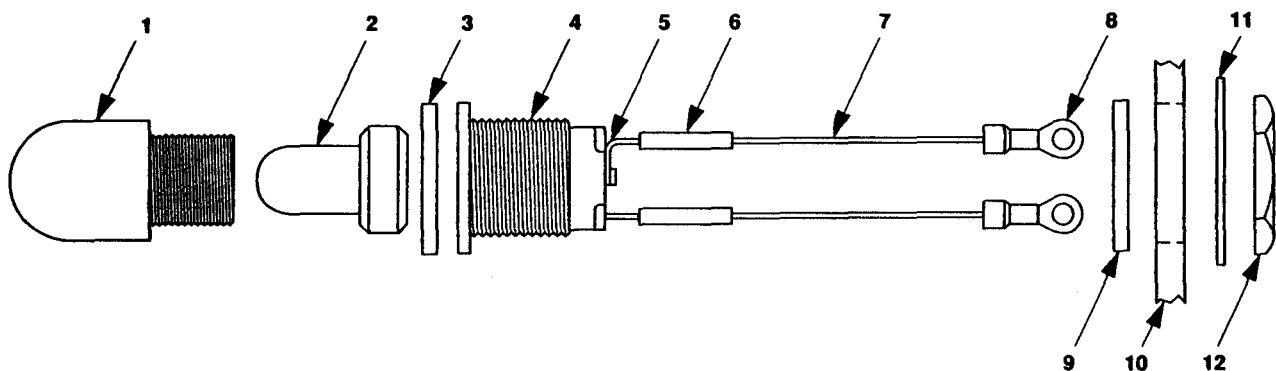

Figure 4-14. Indicator Light Assembly.
1. Measure for continuity between terminals (5, figure 4-14). If continuity exists, replace lamp housing.
2. Measure for continuity of indicator light assembly leads (7) between terminals (5 and 8) in accordance with table 4-2.